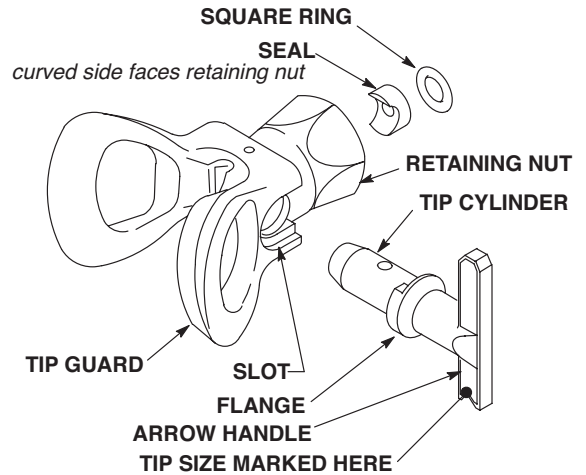

FIG. 7
- Be sure there is no spray tip in the sun. See FIG. 7 if the tip needs to be removed.
Two tips are provided with the gun. The size is marked on the cylinder handle. The size 621 tip comes installed on the tip guard. Each tip comes with a square ring and seal. Refer to Changing Spray Tips on page 11 and fig7.
2. Install the tip cylinder. Hold the cylinder with the arrow handle straight up. Push the cylinder into the tip guard so the flange on the cylinder fits into the slots at the base of the tip guard. (FIG. 7)
4. Be sure the seal and square ring are in place as shown in FIG. 7. If not, place the seal on the end of a pencil with the curved side out. Guide the seal into the retaining nut and turn it until it straddles the cylinder. Drop in the square ring and press it down.
- To adjust the direction of the spray pattern, set the trigger safety latch and loosen the tip guard retaining nut. (FIG. 7)
2. Remove the spray tip from the gun. (FIG. 7)